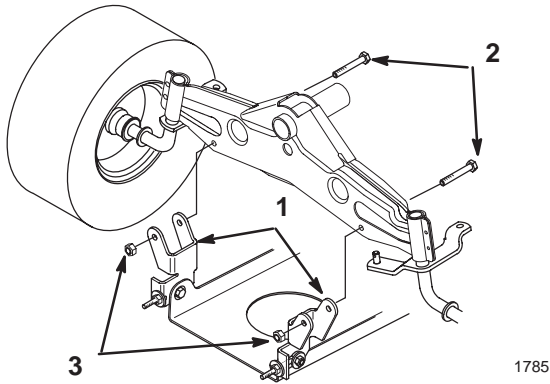

Figure 6
- 4. Install the mower pivot mount brackets onto the front axle with the bolts and locknuts (Fig. 6). Tighten the fasteners.